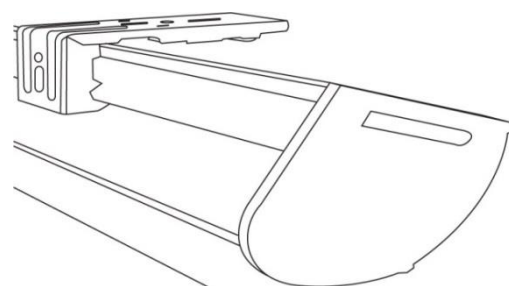

Figure 1
- Align the back of the headrail with the bottom hooks on the bracket (Figure 1)